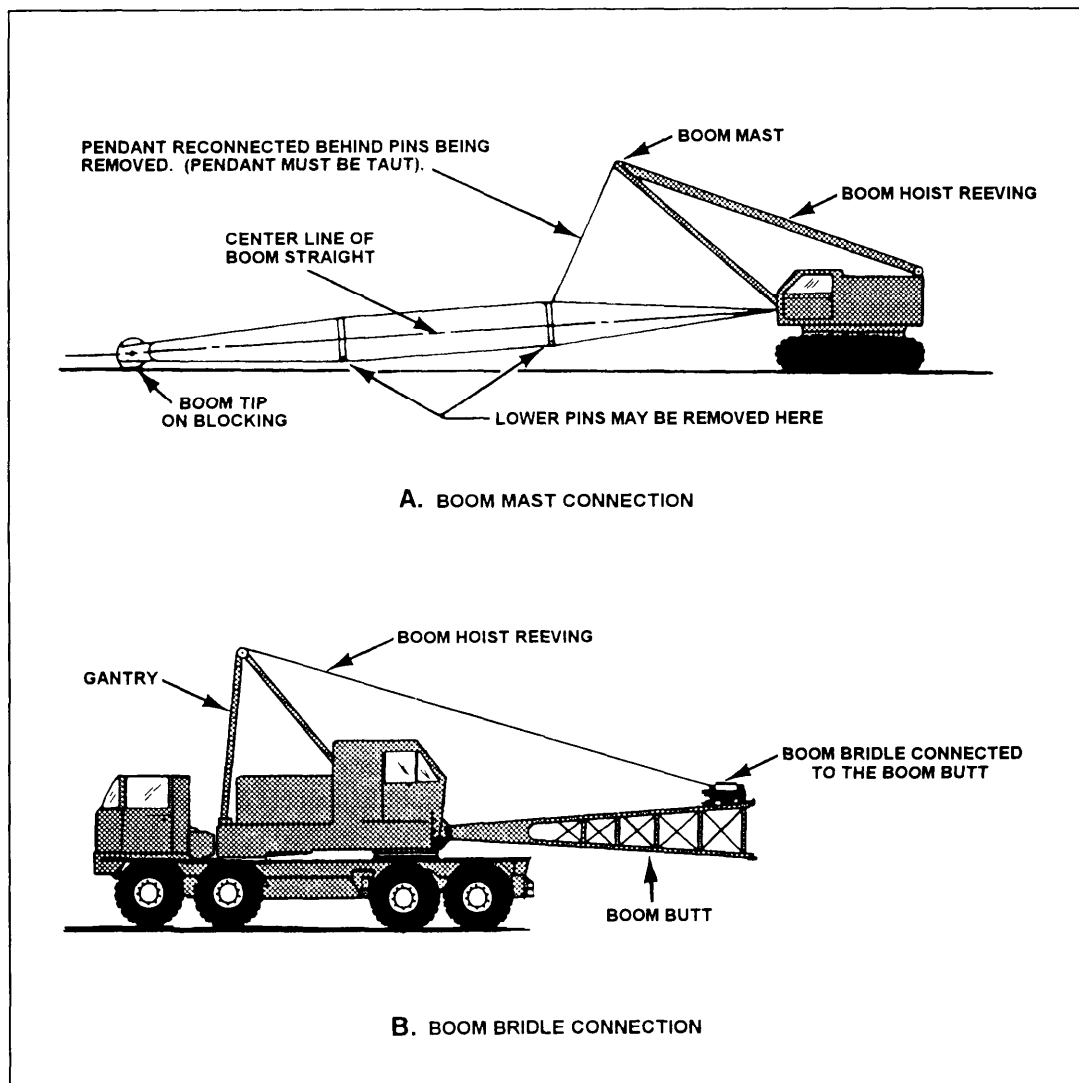

Figure 12-26. Boom hoist assembly connected to boom butt.
5. Position the bridle assembly on top of the boom butt (fig. 12-26, view A). This is done by having the operator engage the boom hoist control lever to tighten the boom hoist lines until the bridle is positioned on top of the boom butt. To align the pinholes, manually position the bridle assembly using the crowbar. The pins that are used for the pendant line connections are
normally the pins used to connect the bridle assembly to the boom butt. If the crane is equipped with a boom mast, the boom mast normally has a short set of pendants that connect to the boom butt pinholes (fig. 12-26, view B).